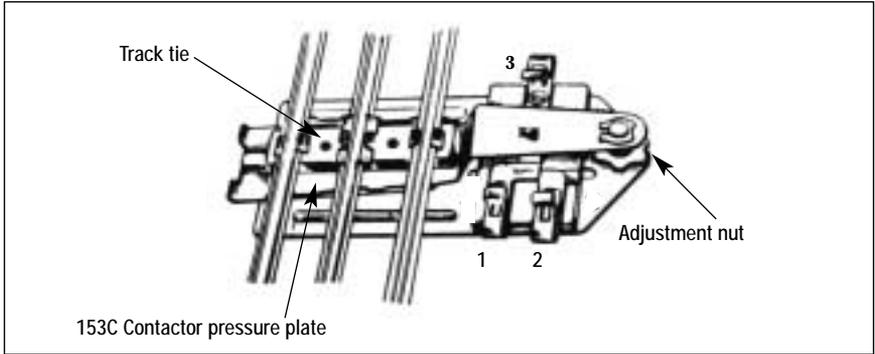

Figure 1. 153C Contactor
The 153C Contactor is activated by the weight of a passing train. Place the Contactor under the track, as shown in Figure 1.
2. Turn the adjustment nut either up or down until the accessory lowers the gate. Refer to Figure 1 on page 3 for the location of the adjustment nut.